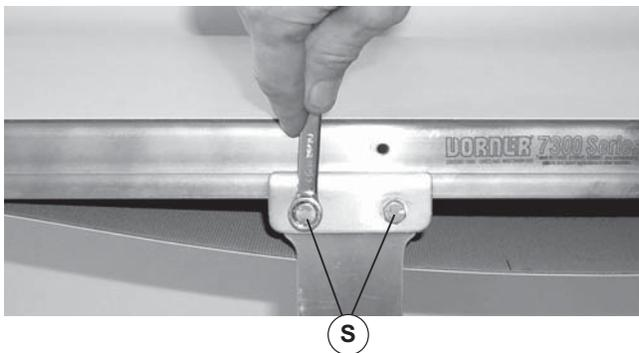

Figure 27
- Loosen two clamp plate screws (Figure 27, item S) on side of conveyor opposite drive motor.
3. Tighten two clamp plate screws (Figure 27, item S)